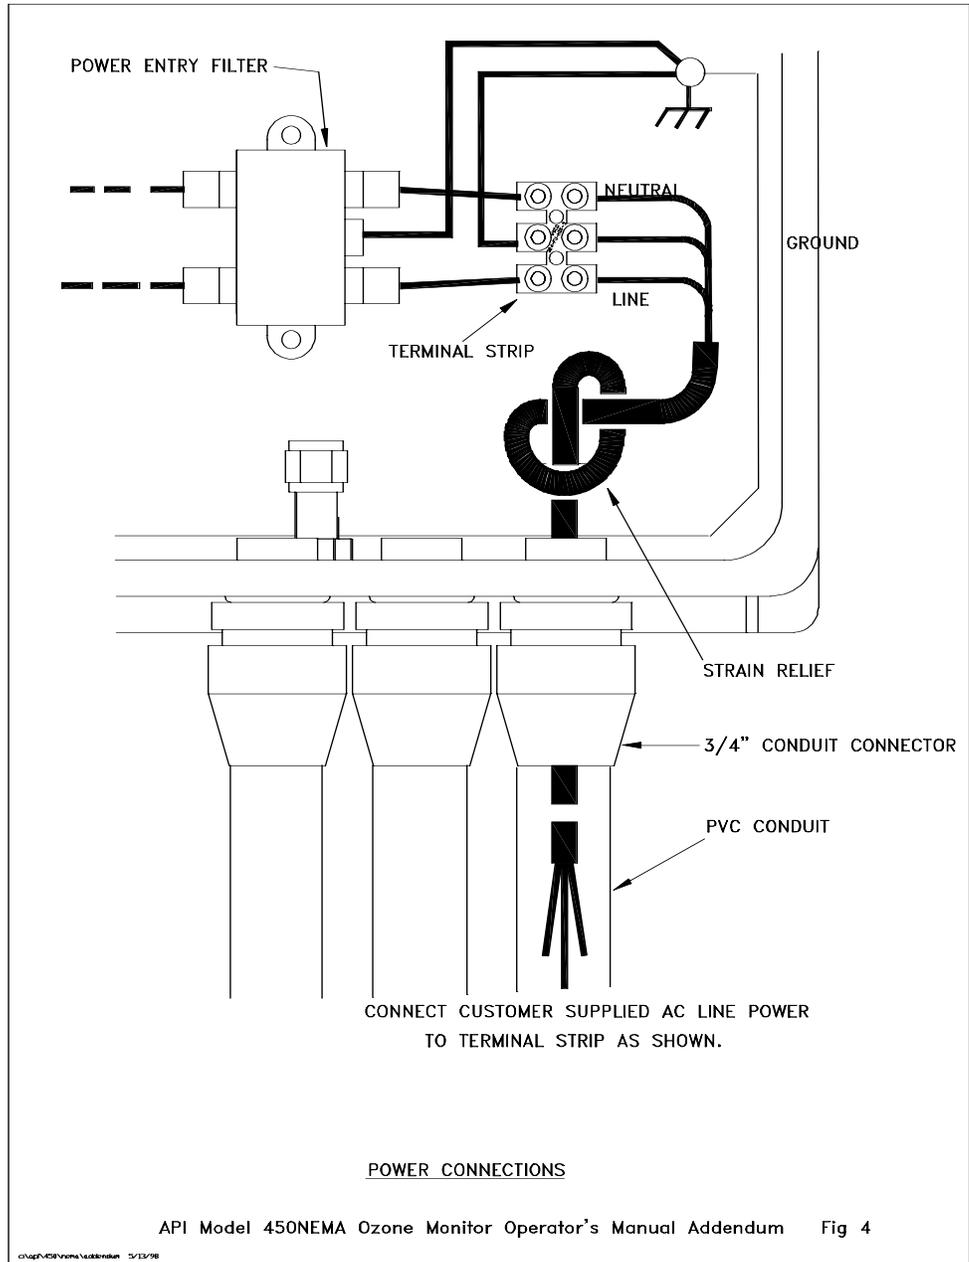

FIGURE 1.2 – NEMA 4X ELECTRICAL POWER CONNECTIONS
5. Before connecting power to the instrument, check the serial number tag to verify that the instrument has been configured for the correct line voltage and frequency. The AC power line should be routed through one of the three 1/2" conduit bulkheads on the bottom face of the enclosure. A barrier strip inside the inside the enclosure is provided for wiring the AC line to the instrument. See Figure 1.2 for details on these connections.
Each digital output is configured as a Collector/Emitter pair. The labels are ‘C’ and ‘E’ for these contacts, respectively. Figure 1.2 below shows the most common way of connecting the digital outputs to an external device such as PLC. Note: Most devices, such as PLC’s, have internal provision for limiting the current that the input will draw from an external device. When connecting to a unit that does not have this feature, external dropping resistors must be used to limit the current through the transistor output to 50mA or less.